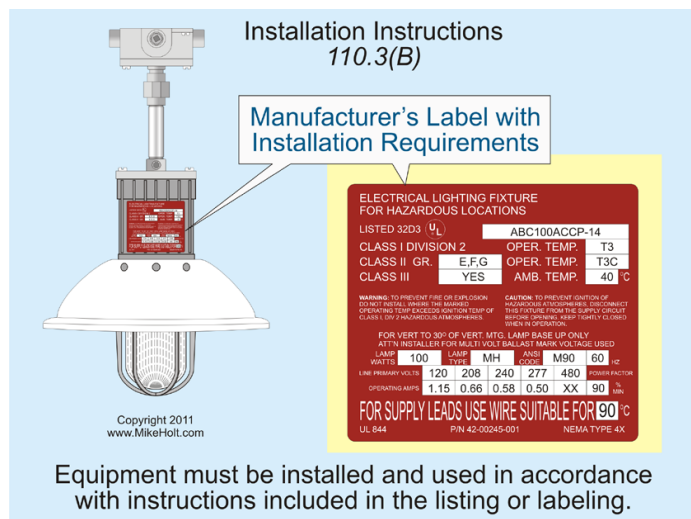

Figure 110-2
- (2) Mechanical strength and durability
- (3) Wire-bending and connection space
- (4) Electrical insulation
- (5) Heating effects under all conditions of use
- (6) Arcing effects
- (7) Classification by type, size, voltage, current capacity, and specific use
- (8) Other factors contributing to the practical safeguarding of persons using or in contact with the equipment
(B) Installation and Use. Equipment must be installed and used in accordance with any instructions included in the listing or labeling requirements. **Figure 110-2**